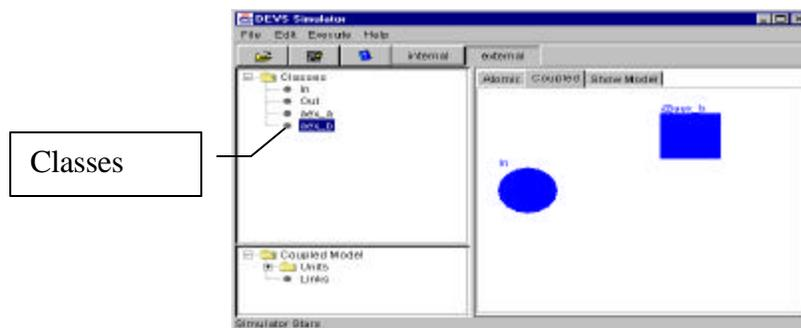

Fig 8
- To draw an unit of the coupled model, first, we need to select the parent class. The parent class can be selected by click the corresponding node of the “classes tree” in the information place. After a parent class is selected, we can draw an unit on the work place just as what we have done in the atomic model. Fig 8 shows the result.